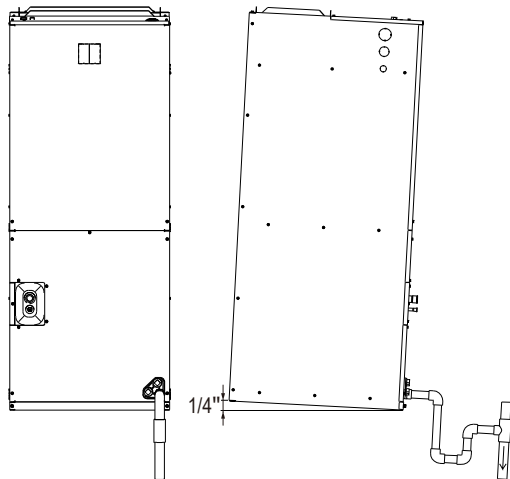
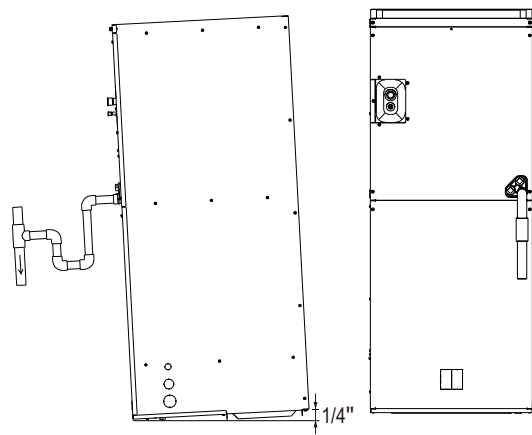
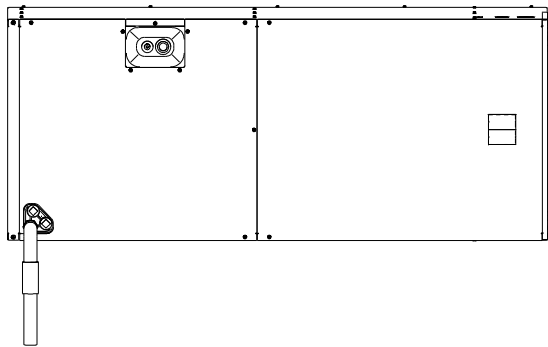

Fig.8-2 Vertically upflow view
Fig.8-3 Vertically downflow view
Fig.8-4 Horizontally right view
- Make sure unit is level or pitched slightly toward primary drain connection so that water will drain completely from the pan. Up to an additional 1/4" rise over the width or depth of the unit is allowed to create additional sloping towards the drain. Unit must be positioned between level and 1/4" rise, sloping toward the drain connections. See Fig.8-2, Fig.8-3, Fig.8-4, Fig.8-5.